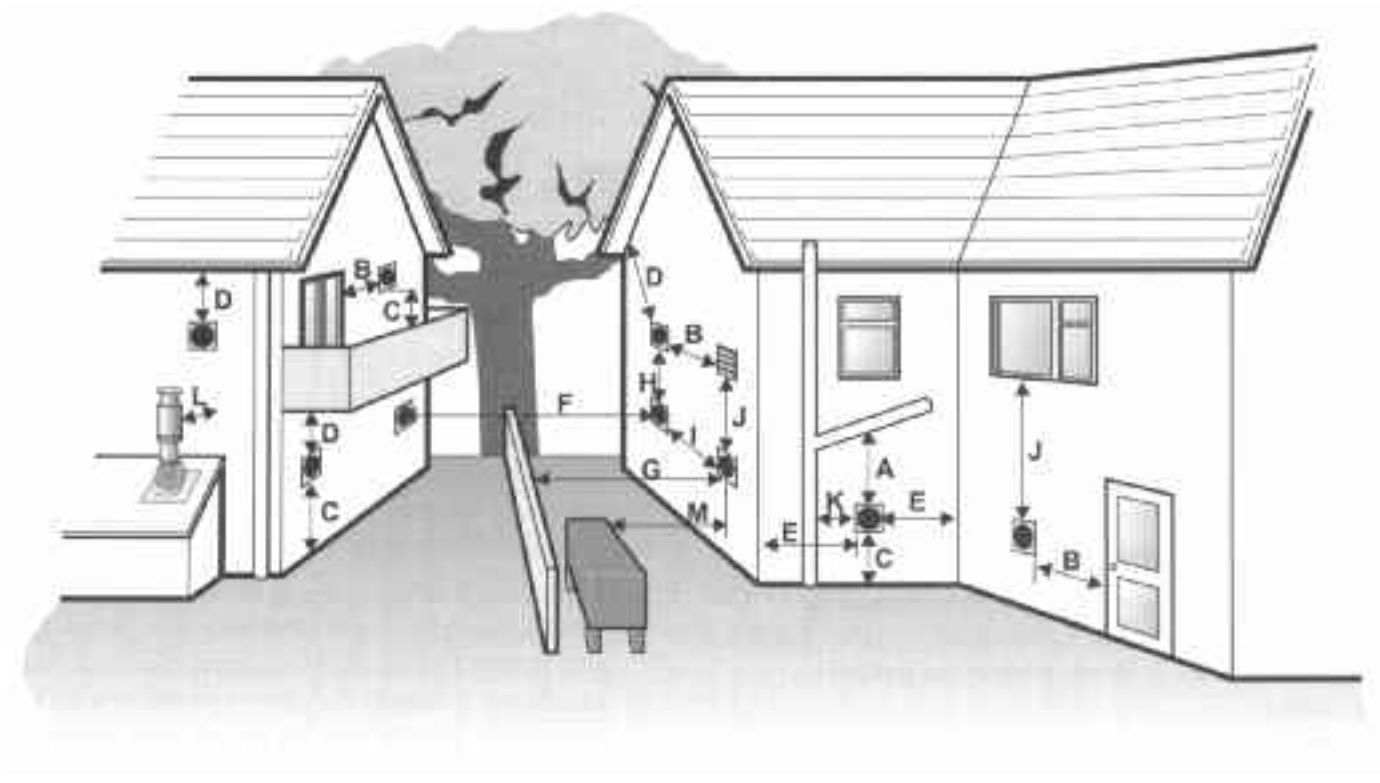

Fig. 12- Clearances for Balanced Flues
- 2 The flue terminal must be at least 600 mm from any opening into the building, and 600 mm above any vertical structure or wall less than a horizontal distance of 750 mm from the terminal. See Fig. 12.
- 2 The minimum clearances for positioning the flue terminal are shown in Fig. 12.